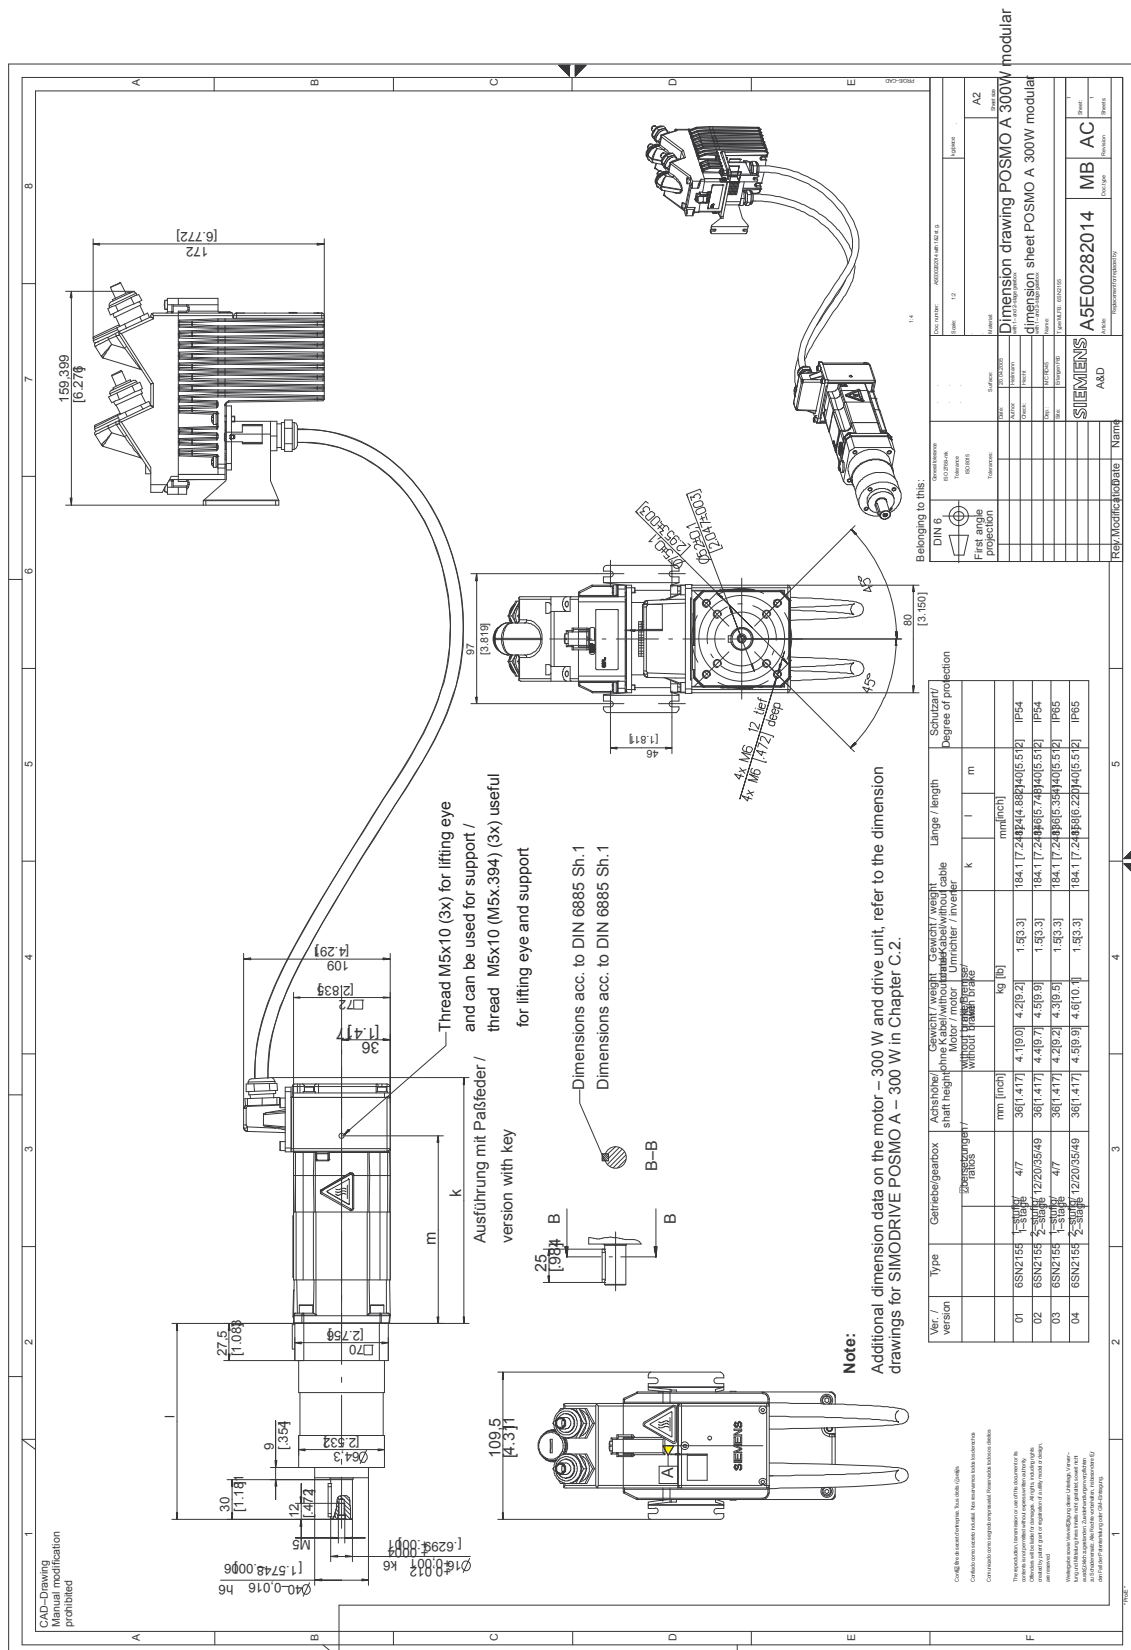

Fig. C-8 Dimension drawing: SIMODRIVE POSMO A – 300 W extension set "separate version" with planetary gearbox (1-stage, 2-stage)
- Motor with planet. gearb. (1–stage, 2–stage) —> refer to Fig. C-8